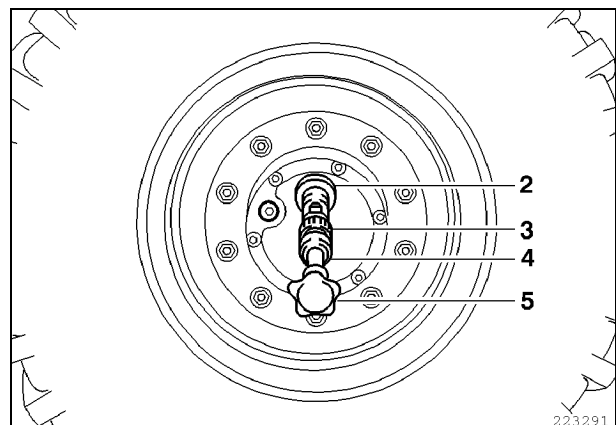

Fig. 2
- Screw the measuring device (2, Fig. 2) into the open bore of the screw plug (fork wrench SW 22).
- Slacken the lock-nut (4) of the measuring device.
- Screw down the measuring spindle (5) to the limit stop by turning the knurled knob.
- Set the graduated drum (3) to mark "0" and lock in this position with lock-nut (4).
- Turn the spindle (5) with the knurled knob down to the limit stop.